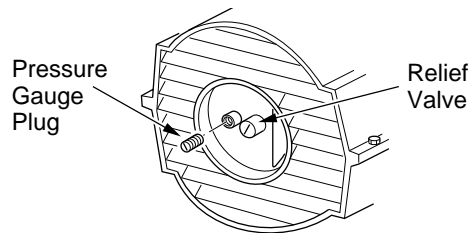

Figure 13 - Pressure Gauge Plug Removal (40/55T/70T Models Shown)
1. Remove pressure gauge plug from filter end cover (see Figure 13).